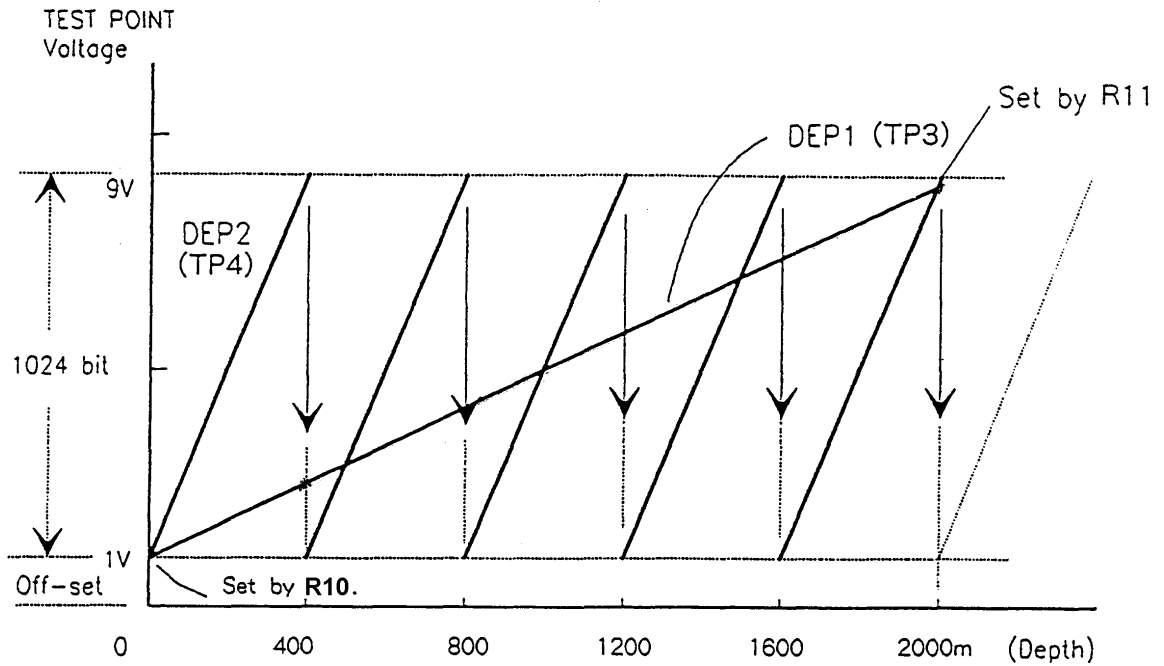

Fig. 2.9 Conversion Curve; depth vs. voltage
- 4) The succeeding differential amplifier U2 (2/2) works to enhance the measuring resolution as much as five times. Namely the output at TP4 (DEP-2) varies from 1 to 9 V five times while DEP-1 at TP3 varies from 1 to 9V. This is controlled by the CPU; the CPU monitors TP3 (DEP-1) voltage and changes the reference voltage of U2 (2/2) at depths corresponding to every 400m (400m, 80cm...160Cm). Refer to Figs. 2.9 for the operation.